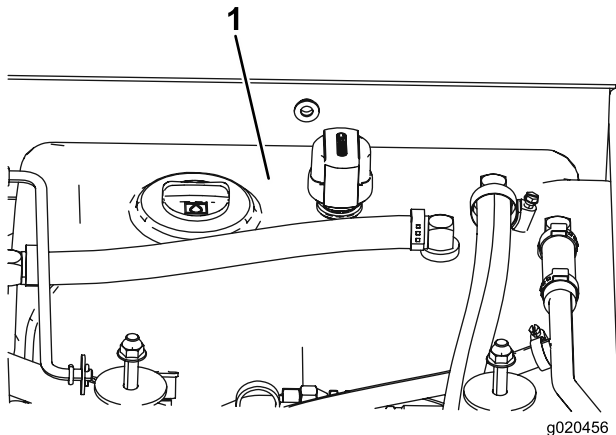

Figure 68
3. Fill the reservoir (Figure 68) with hydraulic fluid; refer to Checking the Hydraulic Fluid.